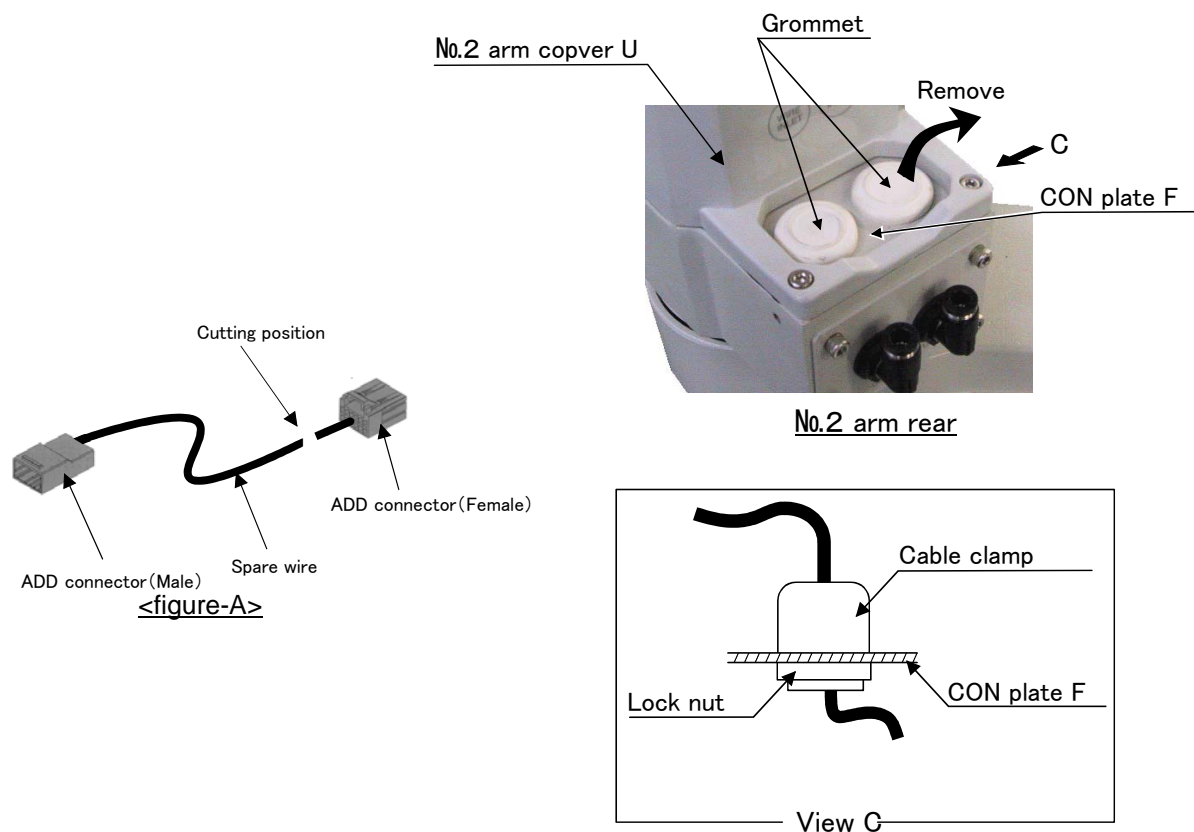

Fig.2-9 : Drawer of spare wiring (No.2 arm side)
- 6) The connector is attached to spare wiring to both ends. Cut spare wiring near the connector (from the connector end to the about 10-20mm Refer to <figure-A> in Fig. 2-9), and let spare wiring pass to the cable clamp (customer preparation).